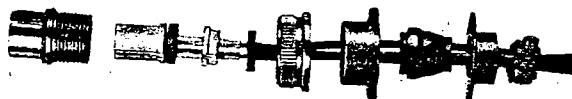

Figure 19
b. When assembling the BT-M series, remove compression screws, sleeve and grommet. Remove back nut by unscrewing to the left. When preparing the 90° plug for assembly remove the elbow assembly and grommet by unscrewing the nut on the elbow. Slide the elbow assembly or sleeve, grommet, back nut, retaining ring, and coupling nut on the wire bundle, making sure they are turned to face the connector shell as shown in figure 19.